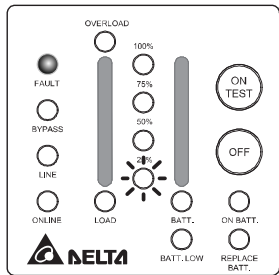

Figure 3-17
- ✓ When under (or over) bus voltage is happened in the UPS and is so-called “Bus U.V.P” (“Bus O.V.P”). Show as Figure 3-17, 3-18.